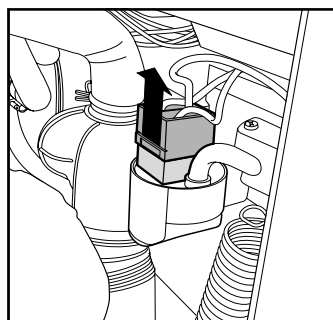

Fig. 3
- 3.** Disconnect the electricity supply to the radio interference suppresser by removing the connector (fig. 3).